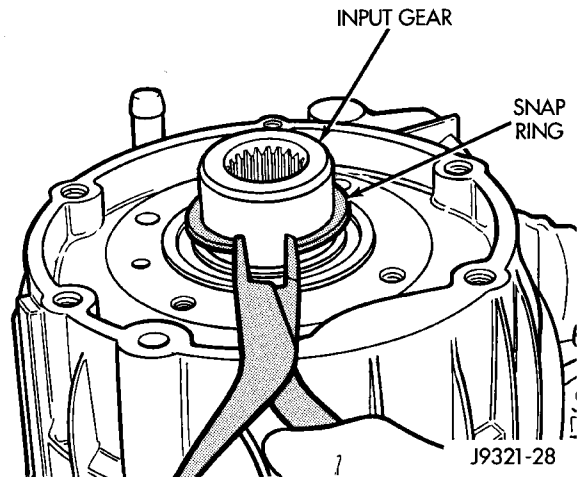

Fig. 36 Input Gear Snap-Ring Removal
(4) Remove snap-ring that retains input gear shaft in front bearing (Fig. 36).